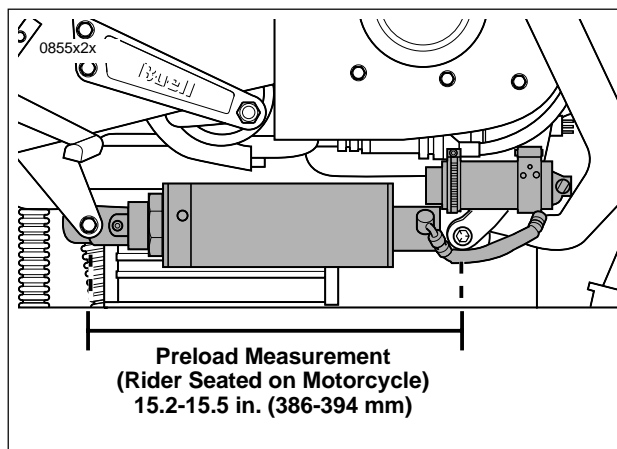

Figure 1-31. Rear Shock Preload Adjustment
1. See Figure 1-31. With a rider seated on the motorcycle, measure the distance between the centers of the front and rear shock eye. The optimum preload measurement is 15.2-15.5 in. (386-394 mm).
2. See Figure 1-31. Adjust shock preload until the measurement is within the optimum preload measurement.